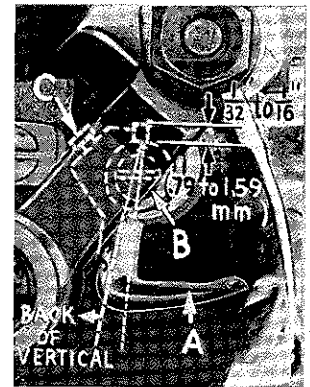

Fig. 8
Insert upper looper (A, Fig. 8) in its holder. Screw (B) holds upper looper in its holder, and permits it to be pushed in or out, or turned around its shank. Insert upper looper holder into upper looper shaft, if it is not already in place. Screw (C, Fig. 8) on clamp holds the upper looper holder in the shaft. Locate upper looper in its holder so that the shank extends $1/32$ to $1/16$ inch (.79 to 1.59 mm) beyond holder (Fig. 8), for Styles 39500 QA, QB, RS, SE, SG, TA and TD, and $1/16$ to $3/32$ inch (1.59 to 2.38 mm)
When the upper looper is at the right end of its stroke, upper looper holder should be set to position upper looper shank slightly back of vertical on Styles 39500 QA, QB, QP, QY, RA, RF, RS, SE, SG, TA, TD and TH (Fig. 8). On Styles 39500 RR and SF upper looper holder should be set to position the upper looper shank about vertically.